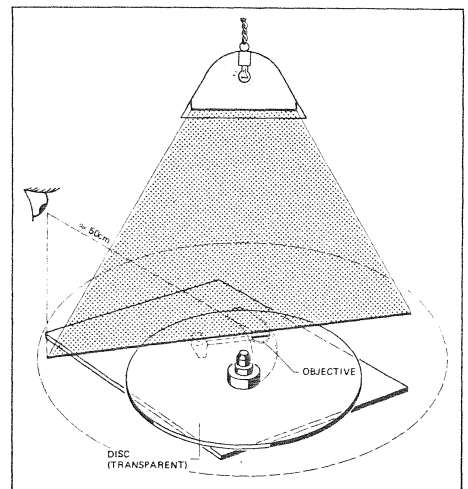

Fig. 4.13
- Bring the laser scanner arm to its center position and rotate the CD player in such a way that the arm stands parallel to the line below the light source (refer to Fig. 4.13).
- When the reflection on the glass disc and in the mirror is viewed as illustrated in Fig. 4.13. The distance between the two lines should not exceed 2.5 mm.